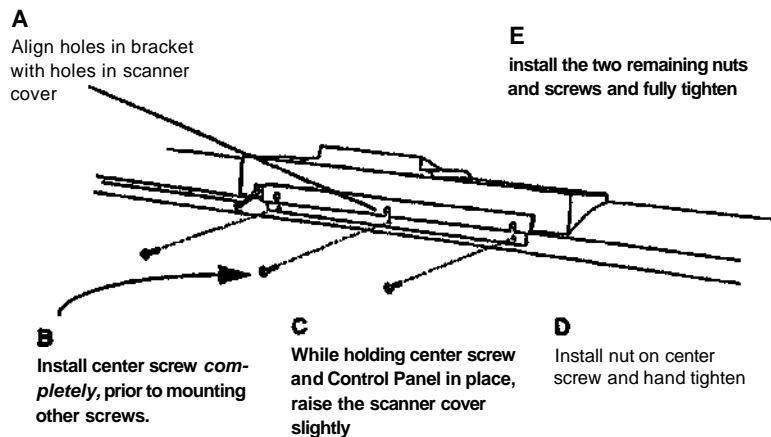

Figure 5 Rear view of 8830 DDS Control Panel showing fastener alignment
- c (Figure 5): Install the 8830 DDS Control Panel on the 7356 scanner.